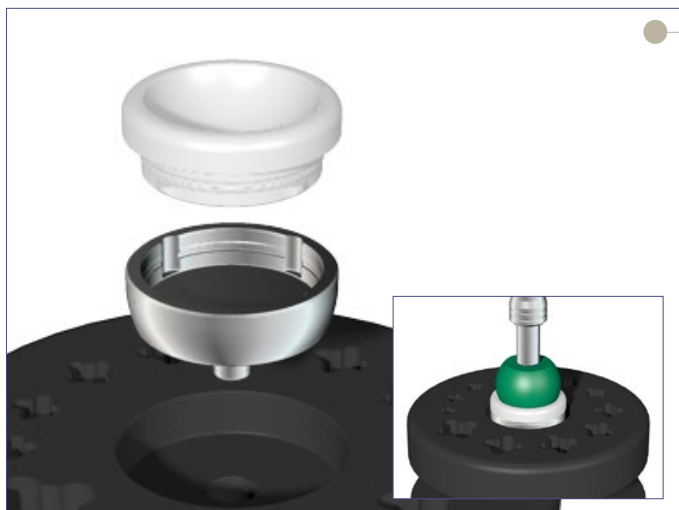

Figure 62
- ▶ Position the definitive X3 Humeral Insert on top of the definitive Humeral Cup [Figure 62].
- ▶ While holding the Humeral Assembly Block steady, impact the definitive X3 Humeral Insert into the definitive Humeral Cup using several sharp blows of the mallet [Figure 62 inset].